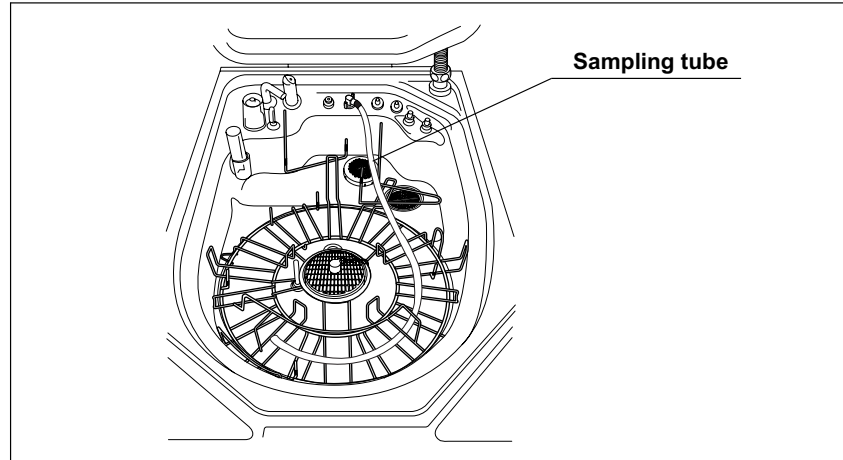

Figure 7.34
1. Connect the sampling tube connector to the same-colored connector at the rear center of the cleaning tub by pushing the tube's connector until it clicks (see Figure 7.34).